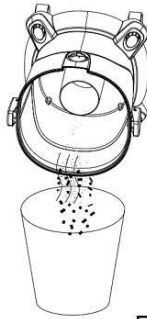

Fig.15
Step 2: Pour the dirty water in a bucket or in the toilet (Fig. 15). Then, rinse under clear water.